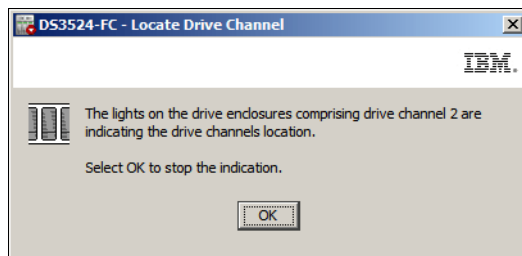

Figure 14-119 Locate Drive Channel
- To locate drive expansion enclosures that are connected to a drive channel, use the **Locate** option to physically locate and identify all drive expansion enclosures that are attached to that particular drive channel. An LED comes on for each drive expansion enclosure in the storage subsystem that is connected to the particular drive channel. Select either Drive Channel 1 or 2 in the Summary view and click the **Locate** button. If you select Drive Channel 2 the window shown in Figure 14-119 will be displayed. After you have located the drive enclosures on the Drive Channel, click **OK** to stop the LEDs from blinking.